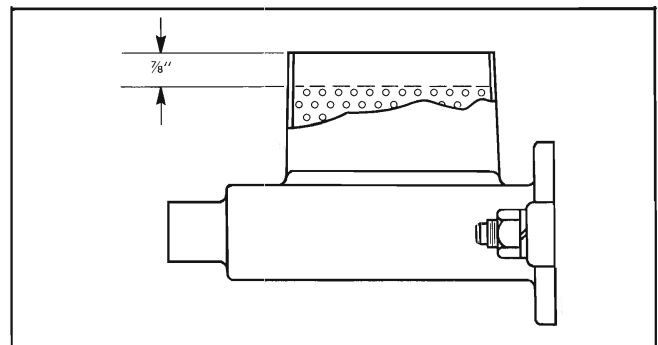

Fig. 5-14 Correct Fluid Level in Master Cylinder
7. Check fluid level to within $\frac{7}{8}$ " of top of cylinder (Fig. 5-14).